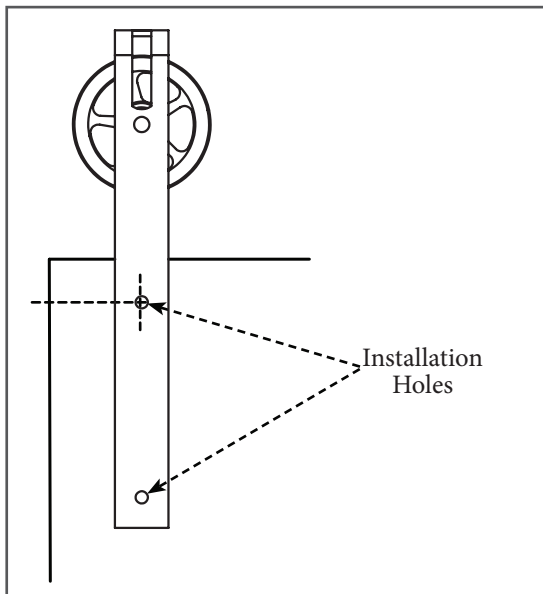

Figure 2
2. Place the hanger on the front of the door facing up with the upper installation hole over the intersecting mark. Mark the upper and lower installation holes on the door with a pencil (Figure 2).